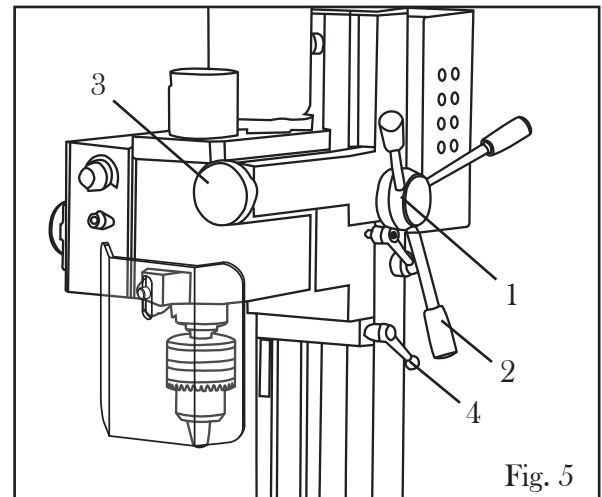
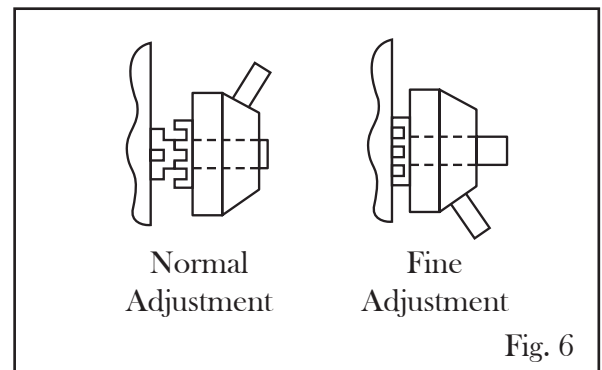

Fig. 5
Fig. 6
For normal feeding, the handle clutch (Fig. 5 - 1) should be in the outer position, disengaged from the pinion (Fig. 6 - Normal Adjustment). Rotate the feed handles (Fig. 5 - 2) to bring the headstock up or down. Use the depth gauge on the left of the column to calculate the cutting depth.
For fine feeding adjustment (down to 0.001 inch increments), push the handle clutch into the pinion (Fig. 6 - Fine Adjustment). Rotate the fine feeding wheel (Fig. 5 - 3) to make fine adjustments to the headstock position. Use the fine adjustment gauge to calculate the cutting depth.
1. Loosen the depth stop lock lever (Fig. 5 - 4 p. 13).